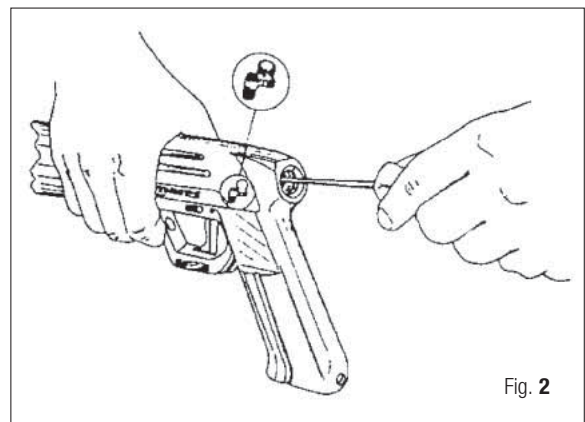

Fig. 2
2. Mount the first stage regulator onto a scuba tank (Fig 2). The tank should be filled to a pressure of at least 30bar/425psi in order to reach the same pressure in the pneumatic gun. A lower tank pressure will result in a lower pressure in the pneumatic gun.
1. Set the power adjustment lever (38) to maximum "high" power position (Fig. 2).
4. With a metal rod (approximately 1.5 mm. diameter), depress the inlet valve ball, until all the air is fully released from the speargun (Fig. 2).